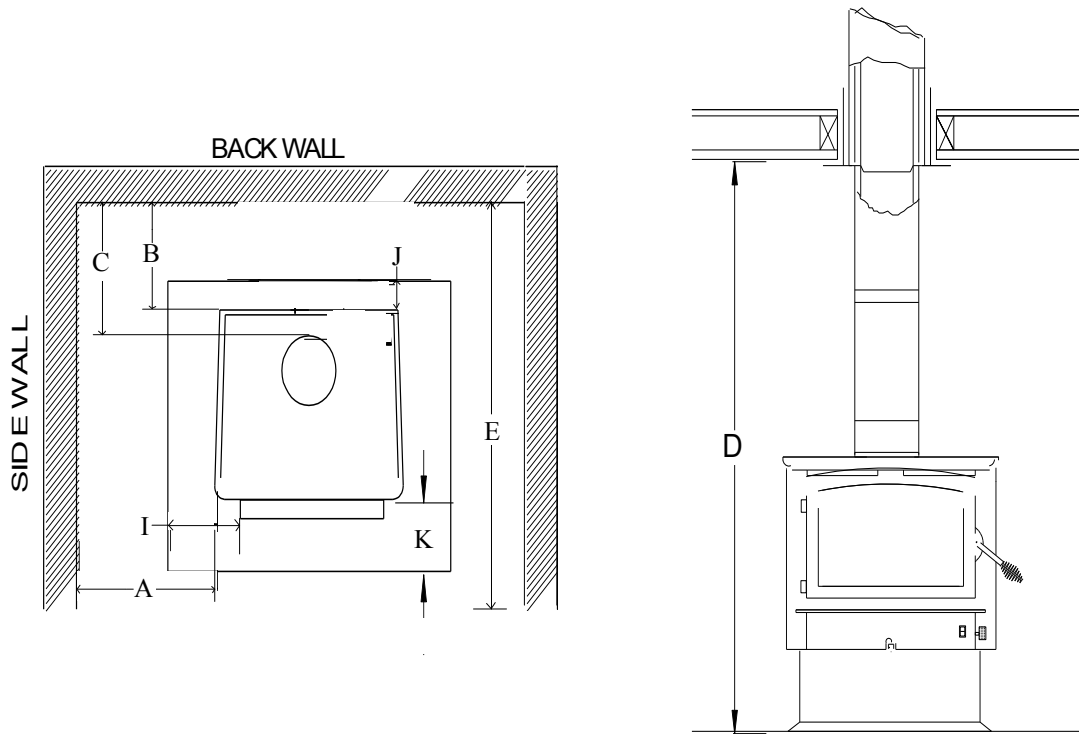

Figure 22
**NOTE:** All clearances are to combustibles using double wall or shielded single wall pipe and optional close clearance shields and pipe shield only, minimum floor protector. (See Figure 22).